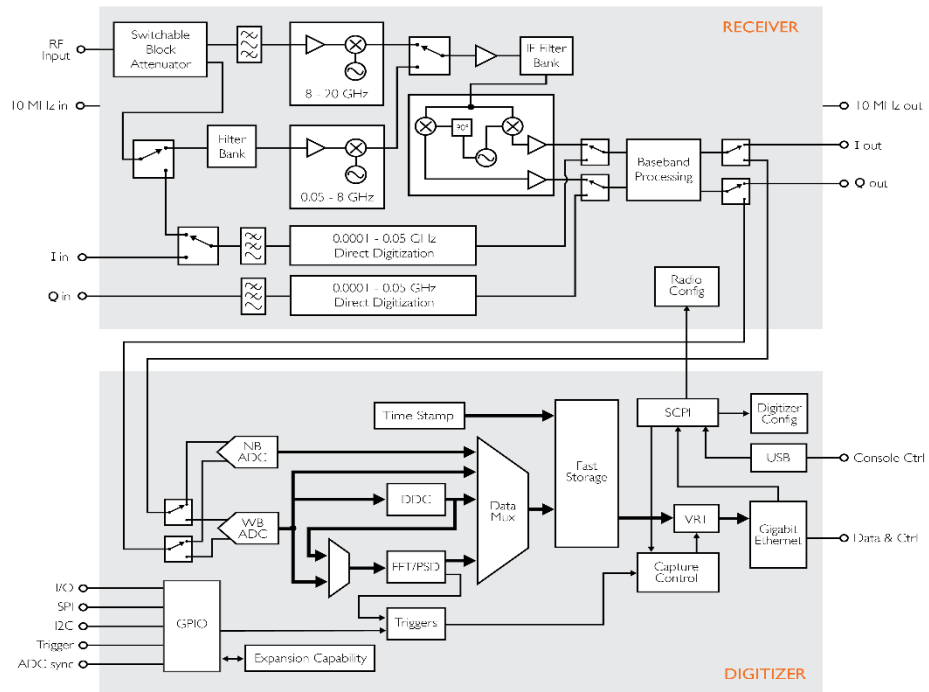

Figure 2: RF Receiver Front-end and Capture Controller Functional Block Diagram
Traces and sweeps are controlled by the capture controller as illustrated in the lower portion of Figure 2. A trace and a sweep are defined as a single (block or continuously streamed) capture and a series of captures, respectively, each with their associated hardware configurations.
The upper portion of Figure 2 shows a block diagram of the RFE within the RTSA 7500. The architecture consists of a super-heterodyne (SH) front-end with a back-end that utilizes an I/Q mixer similar to that in a direct-conversion (or zero-IF) receiver.